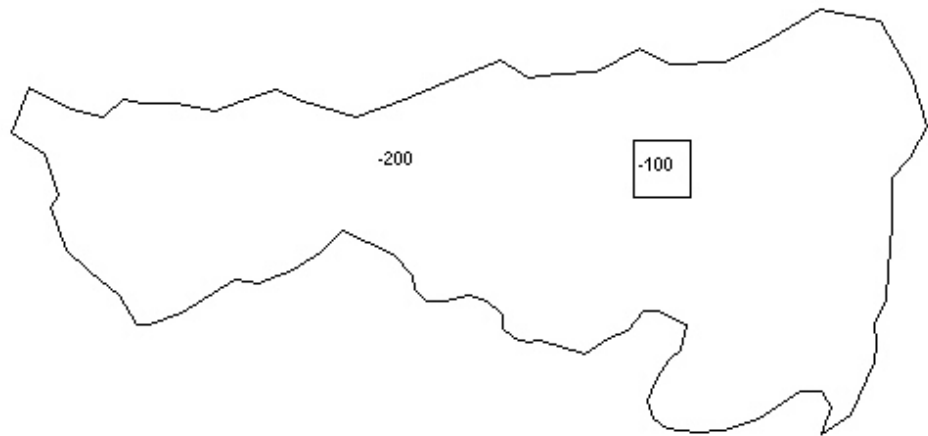

Figure 12-2 Recharge Zones Representing Aquifer Recharge (-200) and Landfill Leakage (-100).
First we will set up the recharge zones. The recharge polygons are shown in Figure 12-2. We will define a parameter for both the small polygon defining the landfill and the larger polygon encompassing the rest of the site. The key values associated with the two zones are shown on the polygons in the figure. The -200 zone represents recharge to the aquifer from rainfall. The -100 zone represents leakage from the landfill to the aquifer.
5. Double click on each of the polygons show in Figure 12-2 and assign the appropriate key value to the *Recharge Rate* input field.